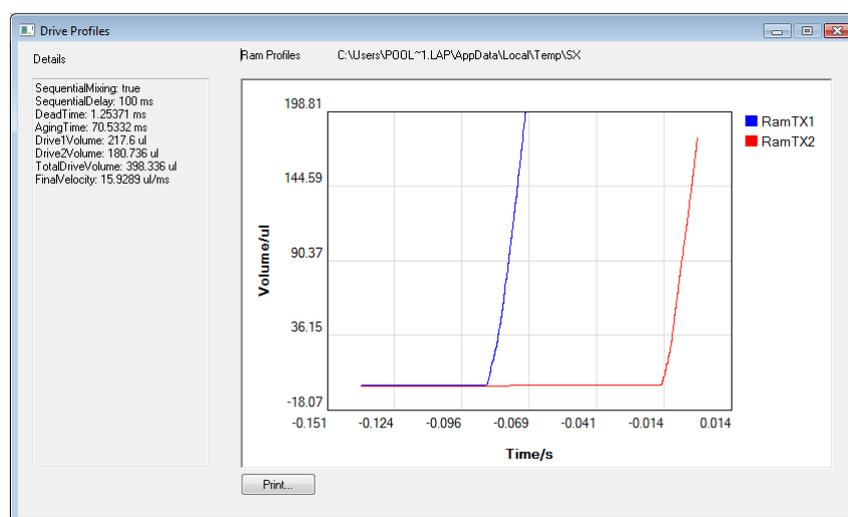

Figure 2.39: the Drive profiles window
7) Carry out several drives and check that the drive 1 volume is 220 μl ($\pm 10 \mu\text{l}$) and the drive 2 volume is 180 μl ($\pm 10 \mu\text{l}$) from the **Drive Profiles** data (Figure 2.39). The drive volumes and measured delay time should be consistent from run to run.